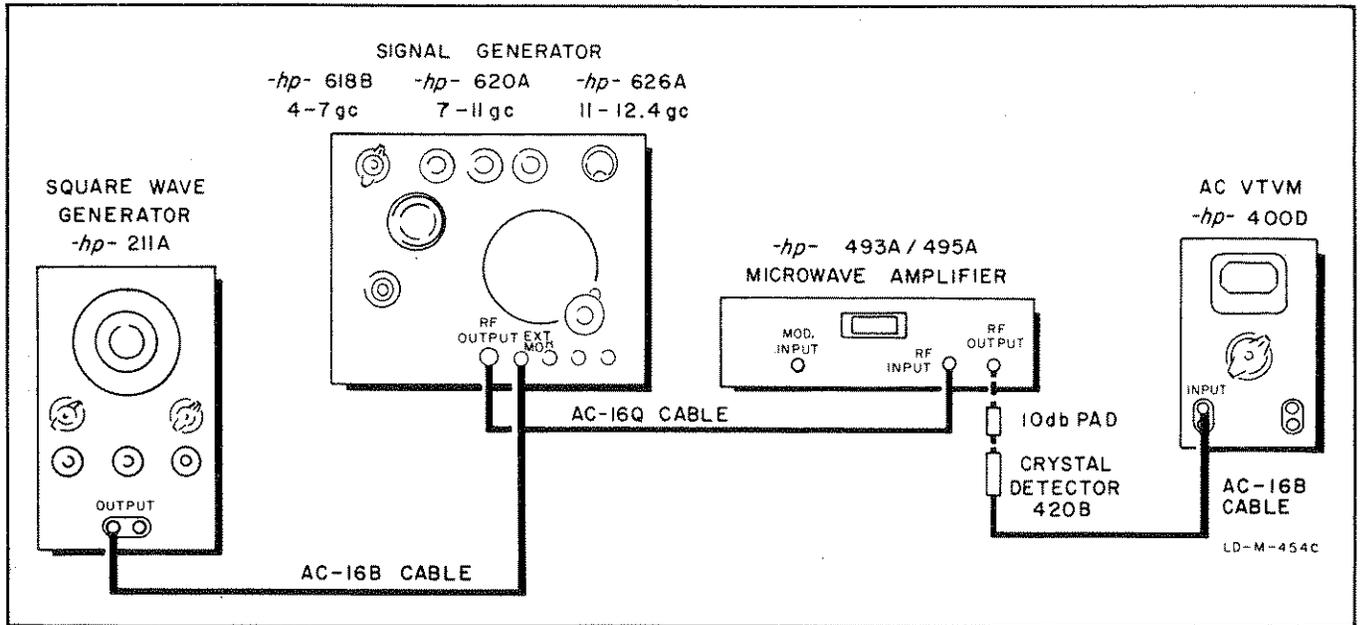

Figure 5-9. Residual AM Check
- a. Connect the Model 493A as shown in figure 5-9.